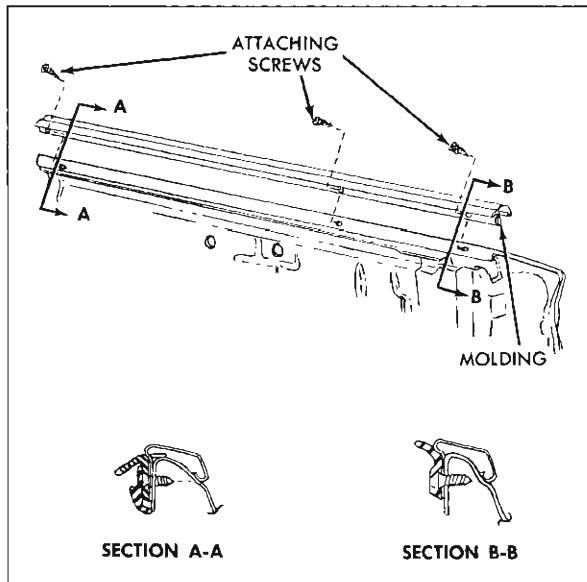
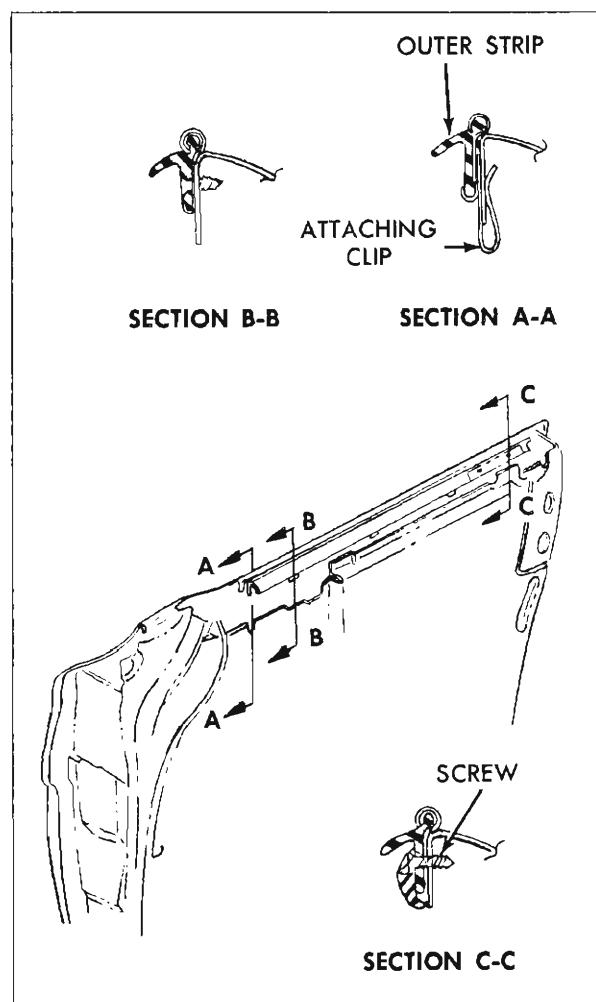

Fig. 3-8 Channel Outer Strip Ass'y.
Fig. 3-9 Channel Outer Strip Ass'y.
4. Remove all outer strip assembly attaching screws (three screws on styles equipped with a belt reveal molding and two screws on all other styles). See Figure 3-8 for styles with a belt reveal molding and Figure 3-9 for all other styles.